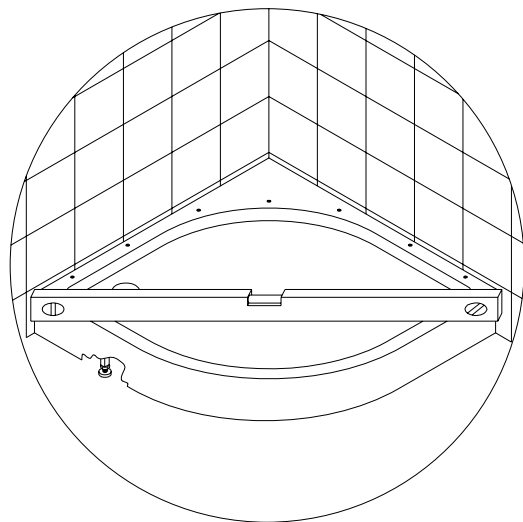

Fig 4
5. Place the tray in the required position. You may need to take off the front skirting panel for easy access. Adjust the legs to level the tray in case the surface is uneven. Fasten the counter nuts on the legs to secure the height (fig 4)